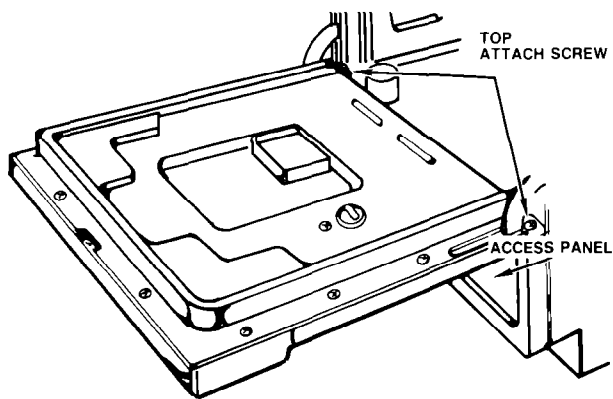

FIGURE 4
- (B) Open dishwasher door. (Figure 4)
- (C) Remove the two top attach screws. (Figure 4)